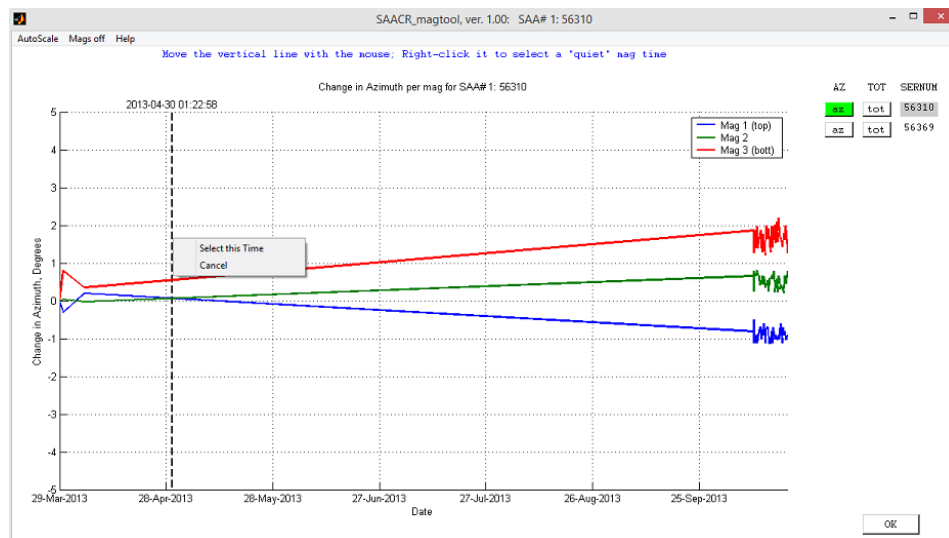

Figure 5.30: The menu that appears upon right-clicking the mouse on the dashed line.
- Only available when 'az' is clicked. **Figure 5.30**